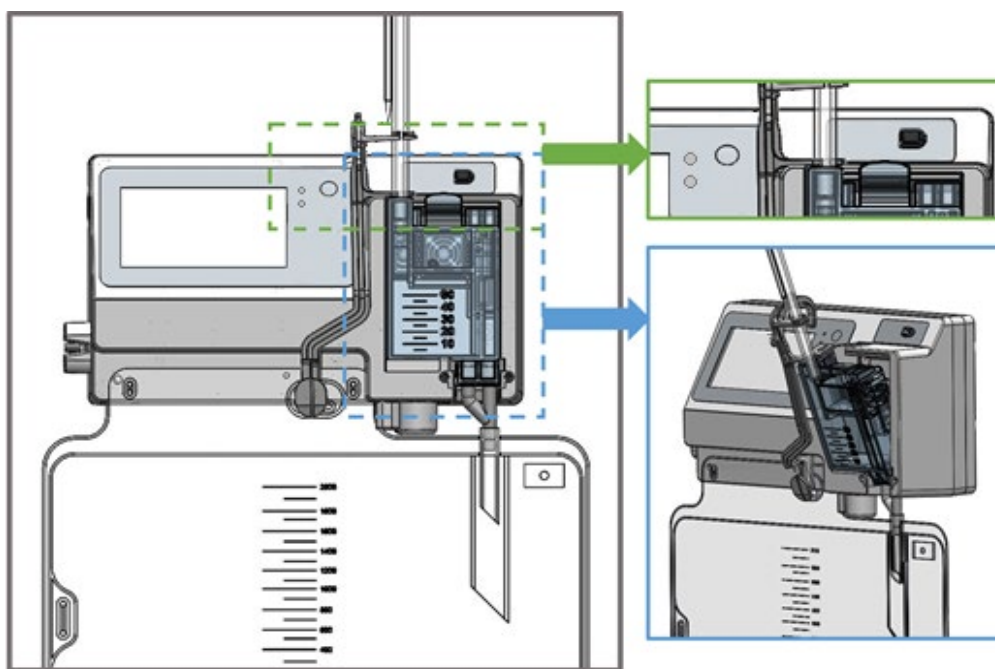

Figure 6 Monitor Setup Diagram
5. Attach the Cassette (D8) to the Cassette Interface (M6) on the Monitor, as depicted in the lower right panel of Figure 6. Ensure that the latch on top of the cassette engages with the Monitor.
6. Hang urine collection bag on the Bag Hook (M8) as depicted in the left panel of Figure 6. Ensure that the bag hangs freely.
7. Connect the Temperature Connector (D7) to the Foley Connector Side of the Temperature Cable (T1), then connect the Monitor Connector Side of the Temperature Cable (T2) to the Temperature Port (M5) as depicted in the top right panel of Figure 6.